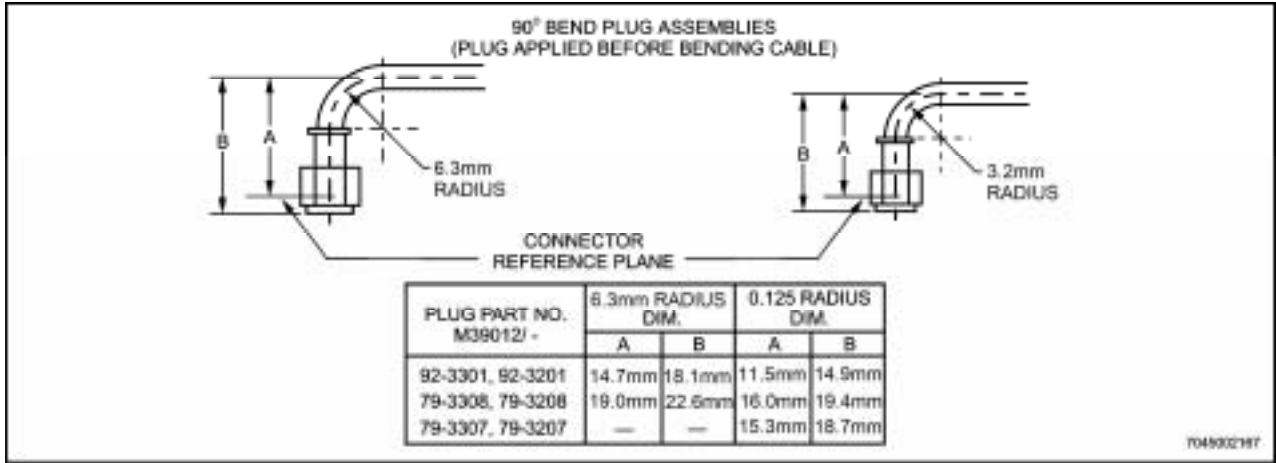
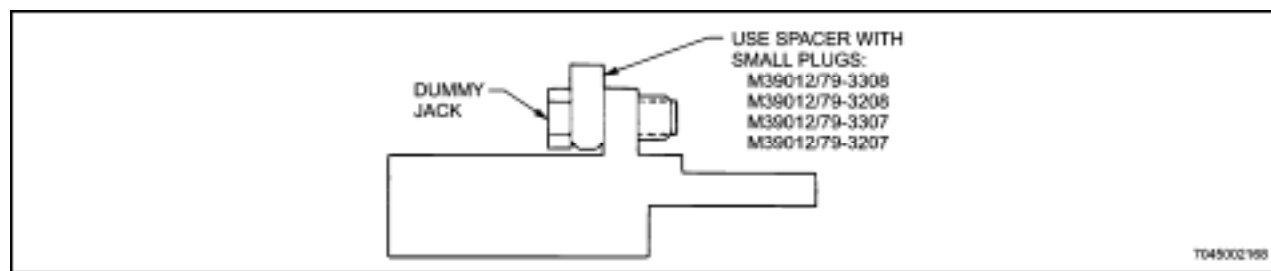

Figure 12-61 Radii Dimensions for Semi-Rigid Cable Bending
Figure 12-62 Spacer on Dummy Jack
47. The 90° bending fixture assembly makes precise right-angle bends on the cable adjacent to the flange end of the plug. Refer to Figure 12-61 for tangent-of-radius to end-of-connector dimensions. Bends can have a radius of either 3.1mm on RG-402/U or RG-405/U cable, or 6.3mm on RG-402/U cable only. The spacer shown in Figure 12-62 must be positioned behind the dummy jack when bending the following: RC-402/U cable to either radius when cable is terminated with either plug M39012/79-3308 or plug M39012/79-3208; RG-405/U cable to 3.2mm radius when cable is terminated with plug M39012/79-3307 or plug M39012/79-3207. Simply loosen dummy jack to insert spacer, and retighten jack before proceeding.